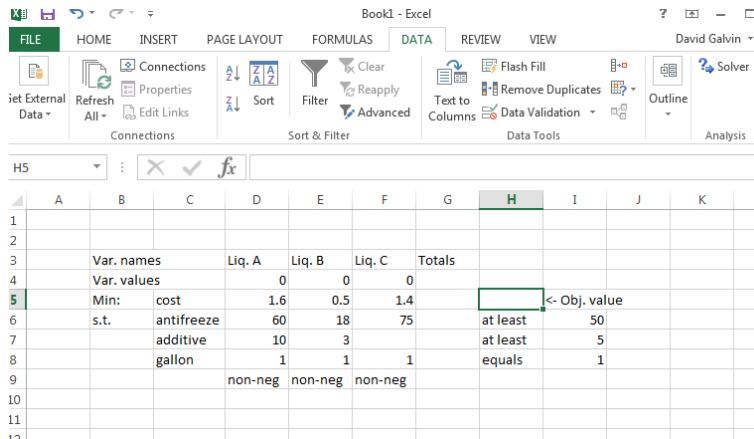

Figure 1: One way to enter the data for an LP problem into Excel in an organized way
- Now transfer this data, together with the short, helpful names, into Excel, more-or-less in the same format, just without using the  $x$ ,  $y$ ,  $z$ 's (i.e., just recording coefficients). Rather than labouriously explaining how I do this, I'll just give a screenshot (fig 1).